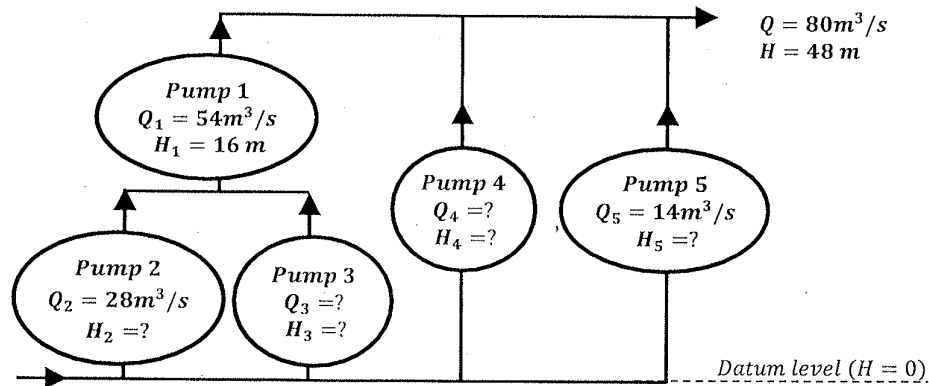

Figure Q5(a)
- (ii) Determine the missing flowrates and the pump heads of the pump connection shown in Figure Q5(a). [6 Marks]